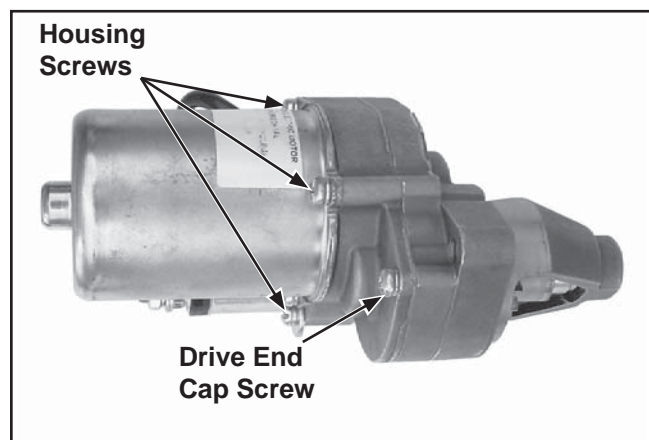

Figure 8-11. Remove Housing and Drive End Cap Screws.
2. Remove the housing screws and the drive end cap screw. See Figure 8-11.